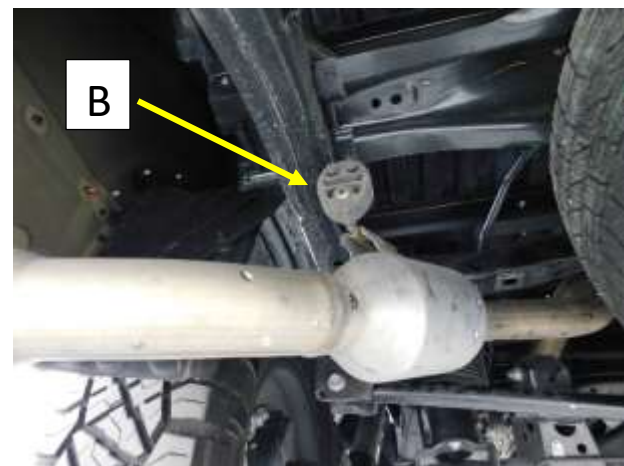

Figure 2
3. Spray the exhaust isolator at the tailpipe hanger with spray lube. Remove the Rubber Isolator **(B)**. **Fig.2**